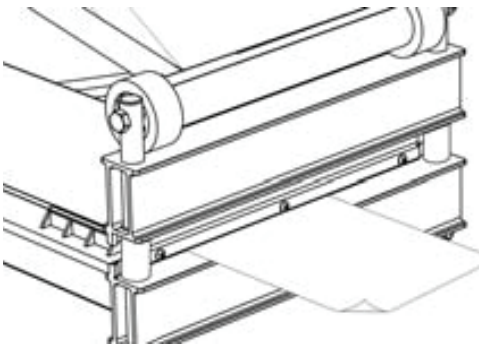

FIGURE 8
3. Cut a piece of paper to ensure the tool is set correctly (Fig. 8).